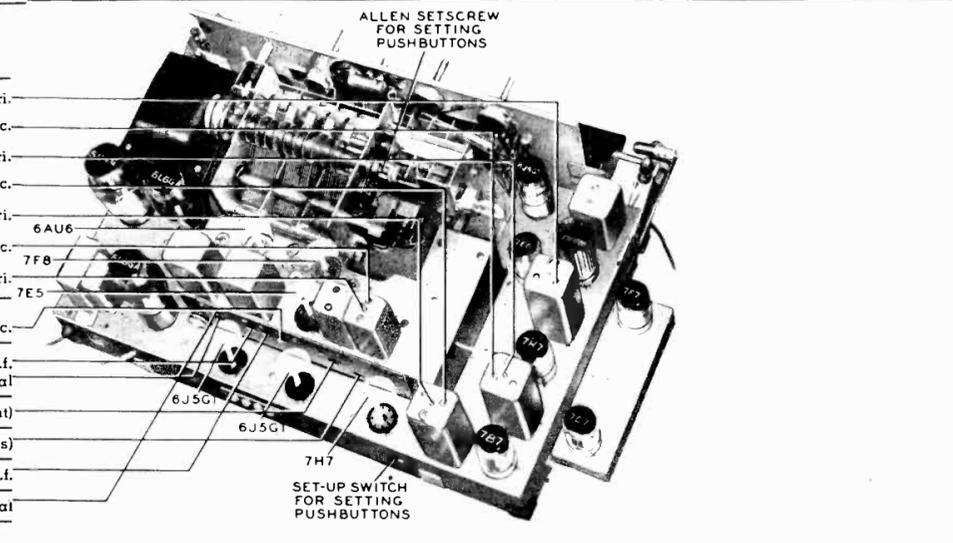

FIGURE 9. TOP VIEW, SHOWING AM TRIMMER LOCATIONS
1. Depress the BC push button, and rotate the tuning control until the Allen setscrew in the main camshaft is accessible from the rear of the chassis, as shown in figure 9.
6. After the tuning motor stops, operate the set-up switch (see figure 9); hold the set-up switch closed until the motor stalls, then release it.